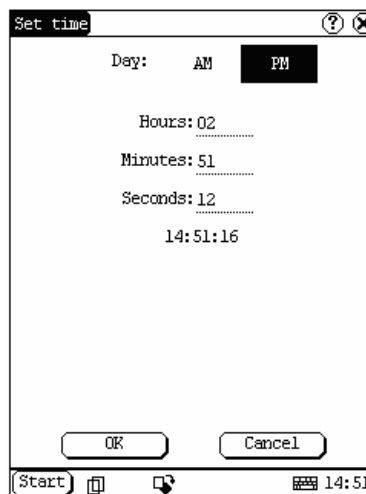

Figure 4-42
- 2) In the Date/Time interface, click [Set Time] button to open the Set Time interface as shown in Figure 4-42.